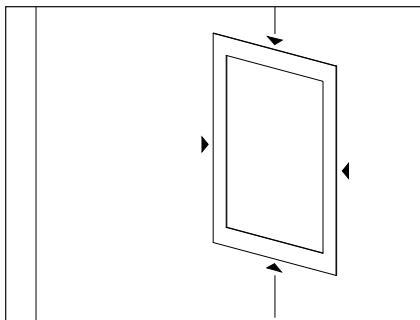

Fig. 5a
- Keeping in mind the recommendations for placement provided earlier, place cardboard mounting template onto wall. Cut hole as indicated (Fig. 5a).